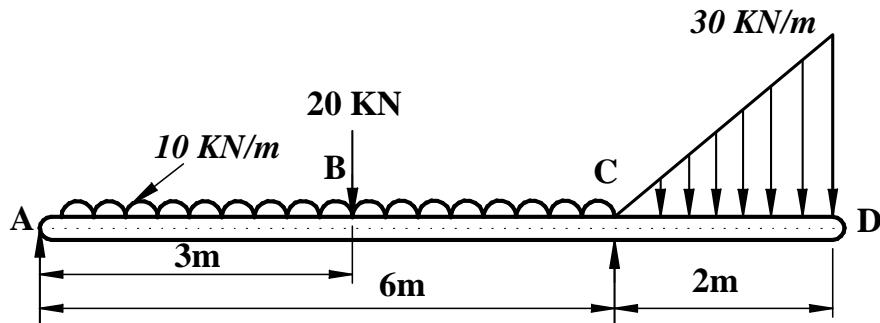

fig 3b
b) The shear force diagram for a beam, simply supported at its ends is shown in fig 3b. Determine the reactions and draw shear force and bending moment diagrams. Also find the maximum bending moment and its location. 14